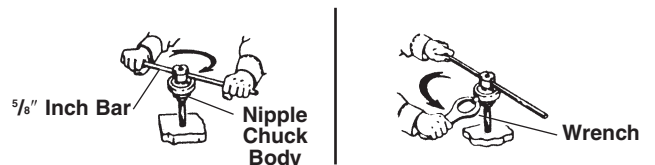

Figure 4 – Driving Studs or Nipples
2. Insert proper size stud or nipple adapter (*Figure 4*) into nipple chuck.